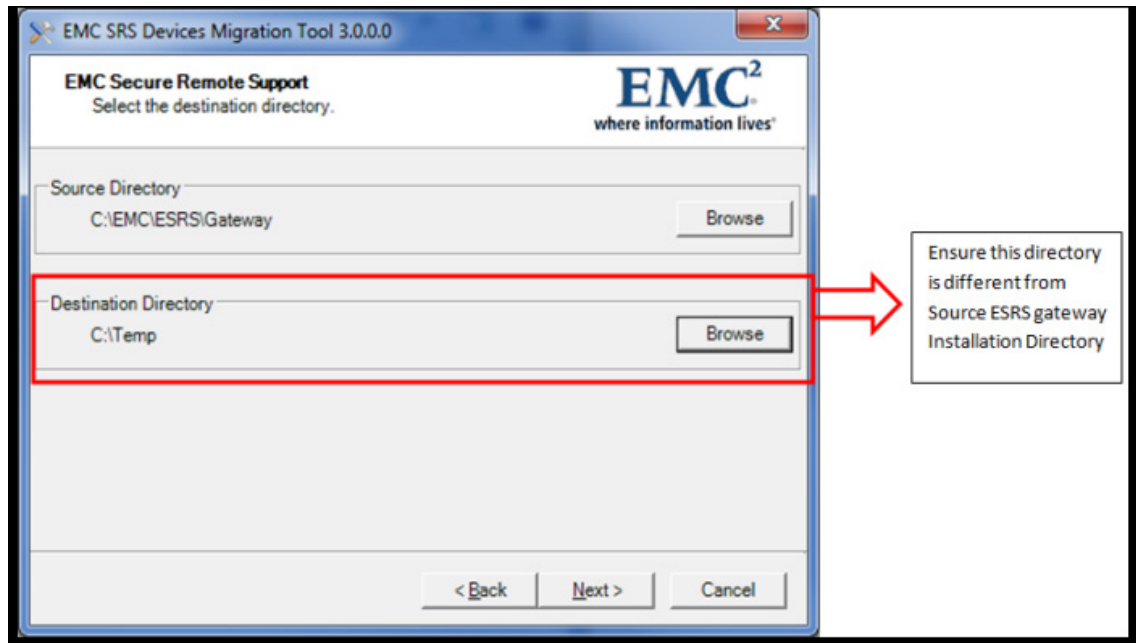

Figure 121 Selecting Destination Directory
3. On the Migration Tool wizard, click **Next**. The Migration Tool wizard displays the Source and Destination Directory information, as shown in Figure 121 on page 98. Note the following: